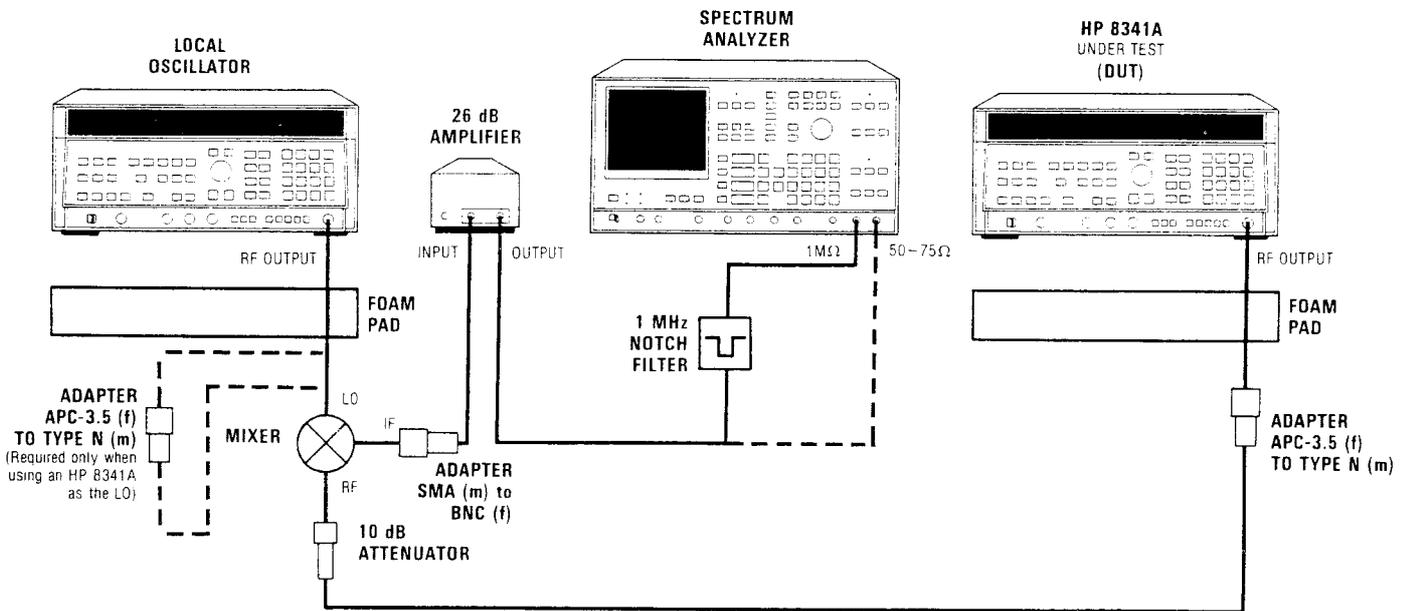

Figure 4-9. Single Sideband Phase Noise Test Setup
1. Connect equipment as shown in Figure 4-9 with the amplifier connected directly to the HP 3585A 50 Ohm input.
The foam pads shown in Figure 4-9 are required to isolate the DUT and LO from mechanical vibrations which could induce phase noise.
17. Connect 1 MHz Notch Filter as shown in Figure 4-9. Select 1 MOhm input impedance on the HP 3585A.
23. Connect equipment as shown in Figure 4-9 with the amplifier connected directly to the HP 3585A 50 Ohm input. Return HP 3585A to 50 Ohm input impedance.
32. Connect the equipment as shown in Figure 4-9 with the 1 MHz Notch Filter connected. Select the 1 MOhm input impedance on the HP 3585A.